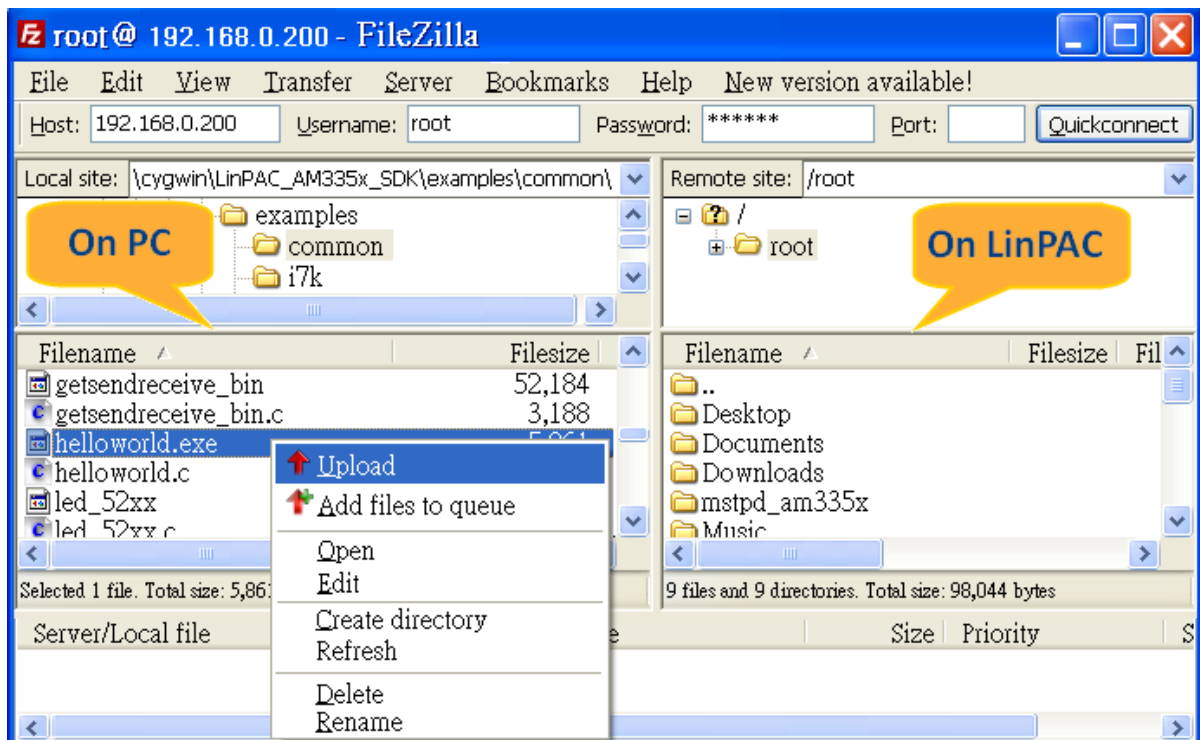

Fig. 3-29
(3) Upload the “Helloworld.exe” file to the LP-2241 (refer to Fig. 3-29).